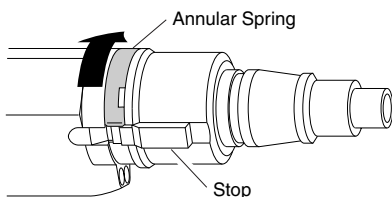

Figure 1 - Rotating Annular Spring to Uncover Stop
1. Using screwdriver, lift end of annular spring and rotate spring until stop is uncovered (see Figure 1).